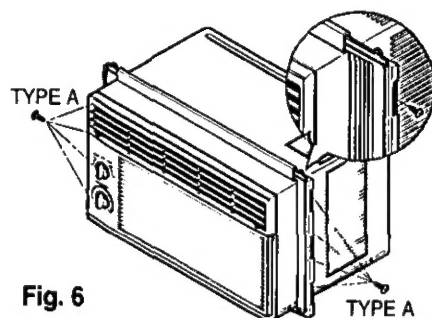

Fig. 6
1. Insert the guide panels into the guides of the air conditioner. Fasten the curtains to the unit with screws (TYPE A) as shown Fig. 6.